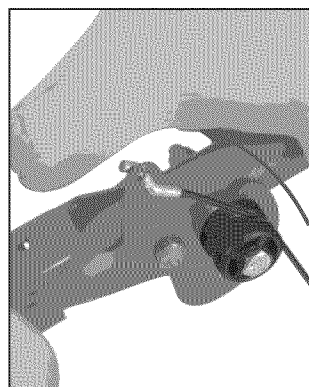

Figure 5. Control Lever Cables
4. Remove shipping tape from control levers. Make sure the "Z" bend ends of the control lever cables are secured in the holes on the control levers (Figure 5).